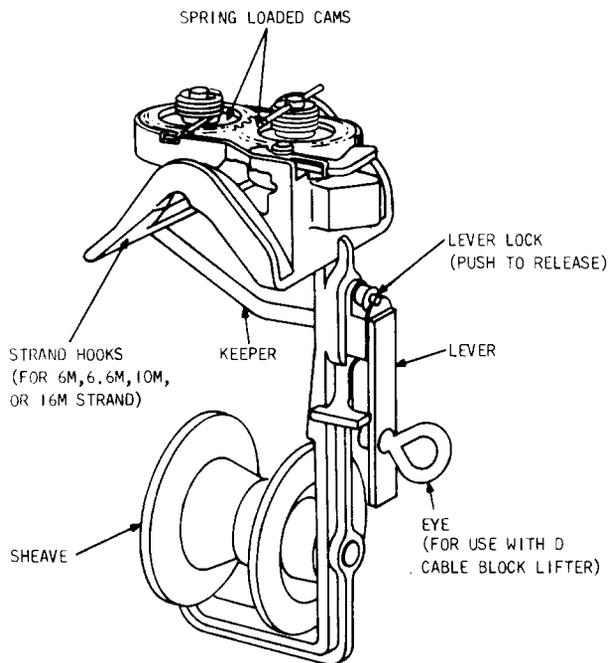

Fig. 3—K Cable Block
3.04 **K Cable Block:** The K cable block (Fig. 3) is a reversible block which supersedes the J cable block and is used for supporting aerial cable prior to lashing an initial or second cable to the strand. This block has two spring loaded cams which are opened manually in the desired direction and held open by a release lever. When the lever is pulled down, either manually or with the D cable block lifter, the cams are wedged against the strand and the strand keeper is engaged preventing the block from becoming disengaged from the strand. The lever lock maintains the keeper in a closed position until released.